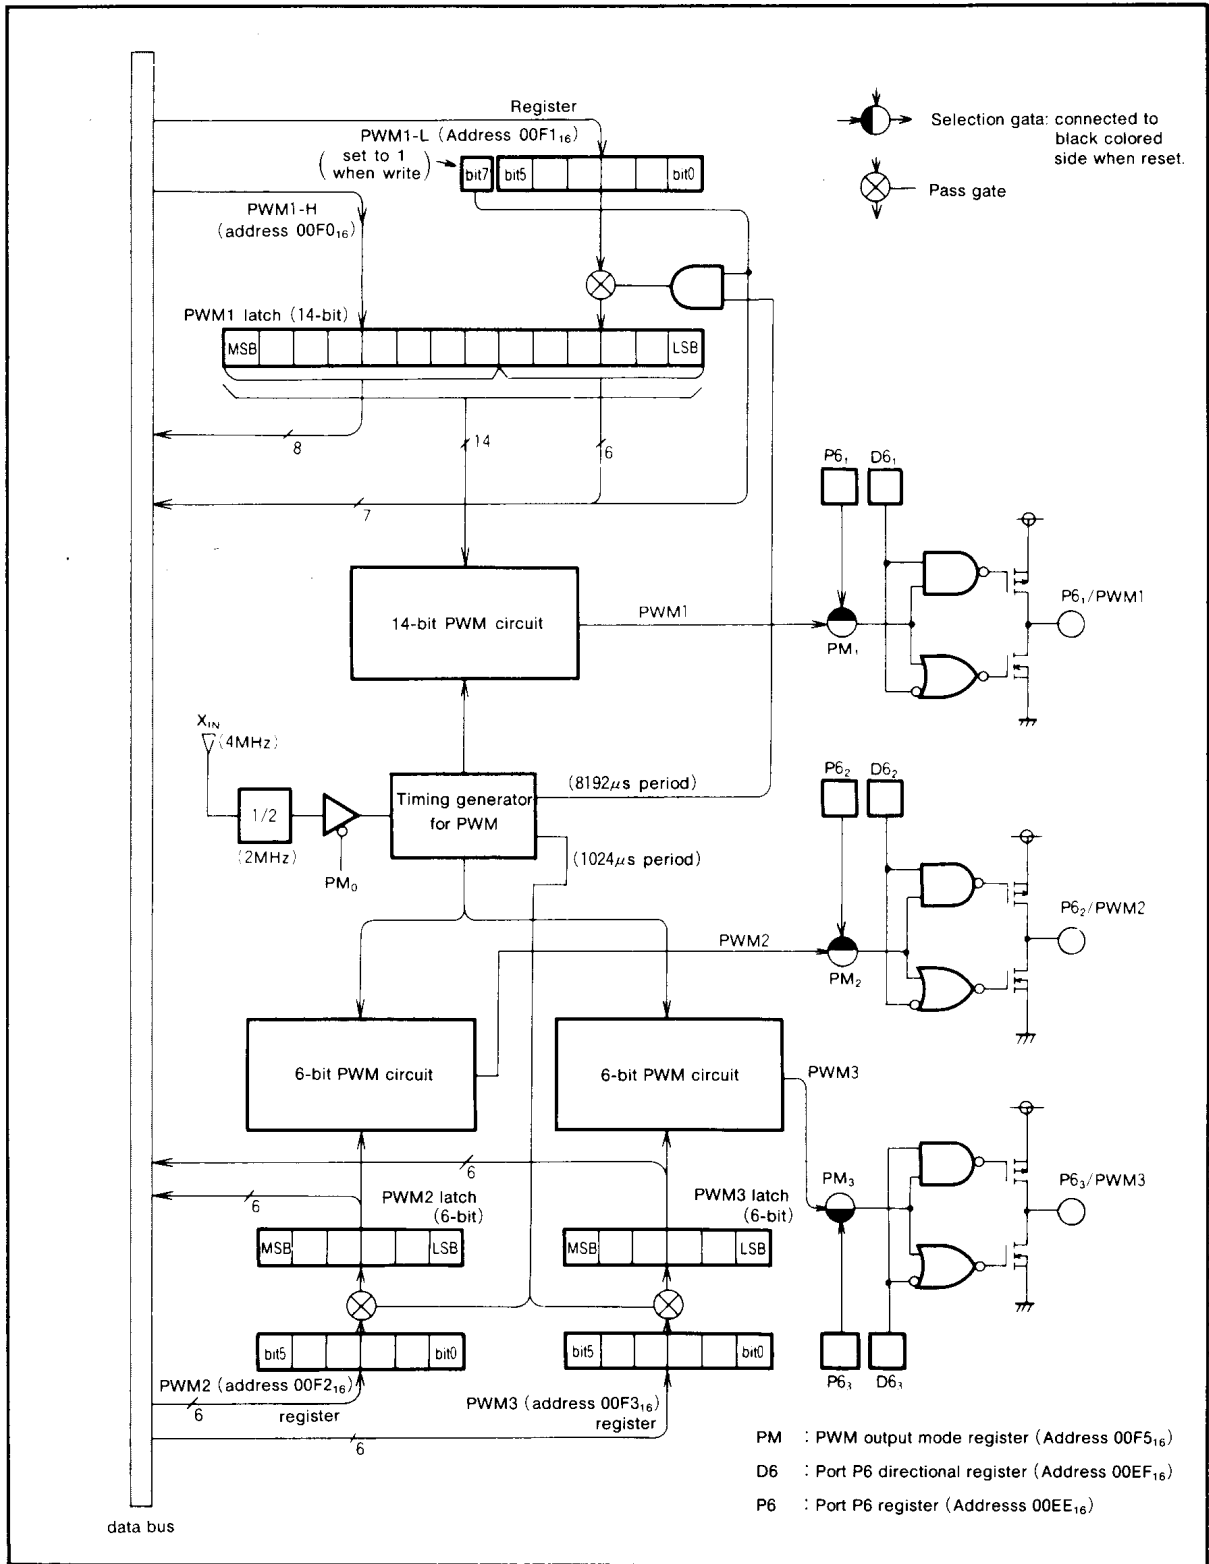

Fig.10 Block diagram of the PWM circuit (M50958-XXXSP and M50959-XXXSP)
(4) Operation of the 6-bit PWMs
The timing diagram of the two 6-bit PWMs (PWM2 and PWM3) is shown in Figure 10. One period (T) is composed of 64 (26) segments.